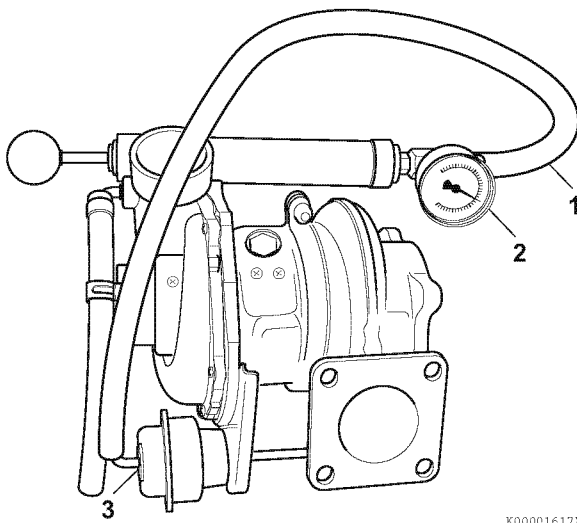

Figure 10-6
1. Connect a hand-operated air pump to the waste gate actuator pipe (**Figure 10-6, (1)**). The pump should be equipped with a 30 PSI (0.21 MPa; 2.21 kgf/cm²) pressure gauge (**Figure 10-6, (2)**), and a pressure release valve to release any pressure pumped into the system. (Similar pumps are used to check for leaks in marine gear cases.)
2. Apply 17 PSI (0.12 MPa; 1.2 kgf/cm²) to the waste gate actuator (**Figure 10-6, (3)**) circuit. Observe if the waste gate valve is open fully. If the waste valve does not open fully, replace the turbocharger or have it repaired by a qualified repair facility.